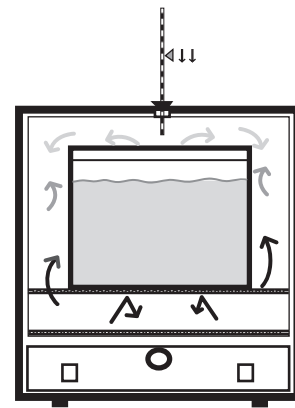

FIG. 8
- Avoid extremely large (in quantity or size), or high-density loads ( FIG. 8 ON PG 4). This will show by non-uniform processing and long or impossible "heat-through" times. To help determine a large load's suitability, use the set-point recovery time (the time it takes for the temperature to recover to the original set temperature once load is placed), as a guide.